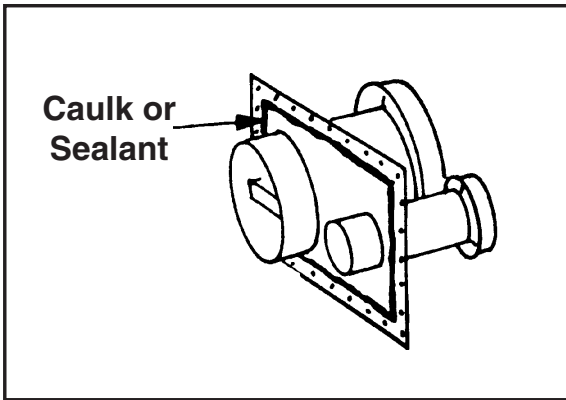

Figure 9. Sealant Application
9. Apply appropriate caulking or roof sealing material to ventilator cap assembly. Apply compound to underside of ventilator cap flashing to form a continuous strip around the underside of the perimeter of the flashing as seen in figure 9.